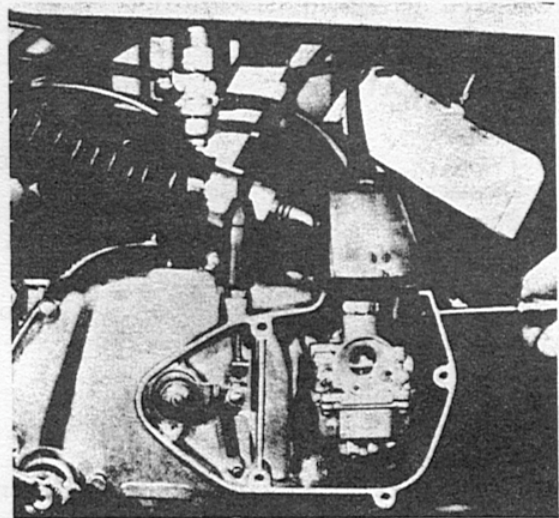

Fig. 2
6. Insert a screw driver through the access aperture and loosen the carburetor mounting bolt. (Figure 2)